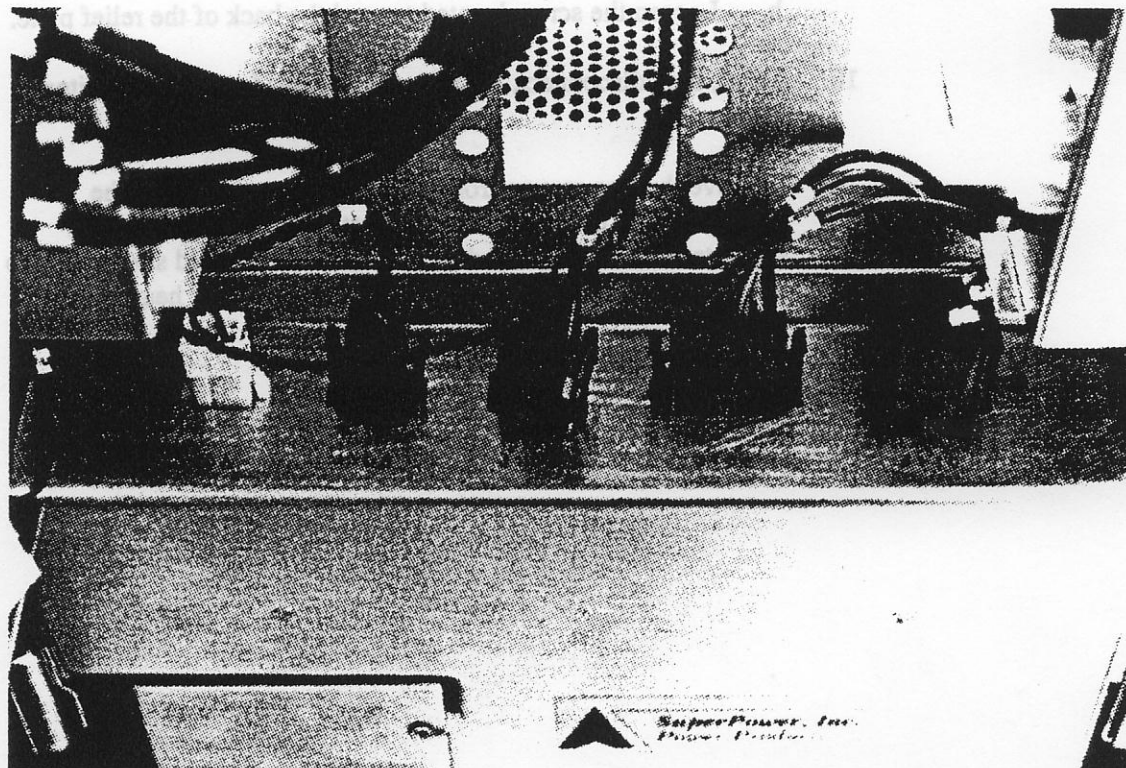

Figure 7-26. Capacitor Bank Connectors
7. Disconnect the connectors from the front and back of the capacitor bank. Refer to Figure 7-26.